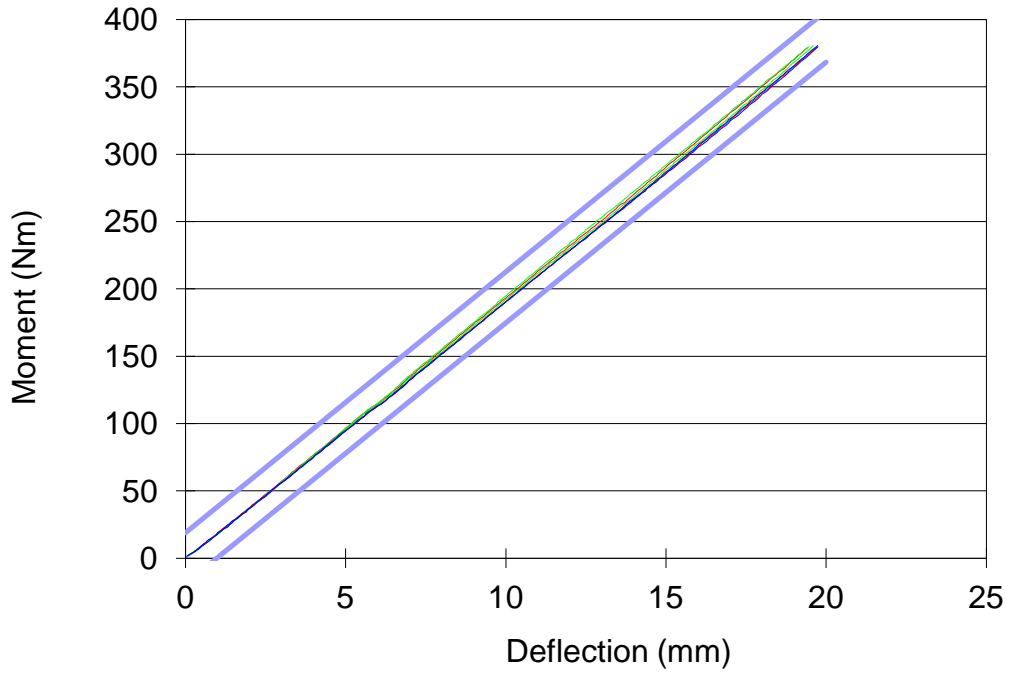

Figure 81 . Femur assembly certification corridor moment vs. deflection showing typical results
The loading spigot is at zero load just touching the impact cover. Each bone assembly is loaded to 380 Nm. Check deflection/moment output must be inside corridor see Figure 81 and 82. Temperature for this test must be between 20 ± 2 °C. Note that the loading path from the machine must have no rubber damping otherwise the load curve will be inaccurate. To calculate moment loading centres, femur is 330mm and tibia 410mm. For femur moment $MF = [F (N)/2] \times 0.165 (m)$ and for tibia $MT = [F (N)/2] \times 0.205 (m)$. Loading rate is to be between 10 and 100 mm/min.